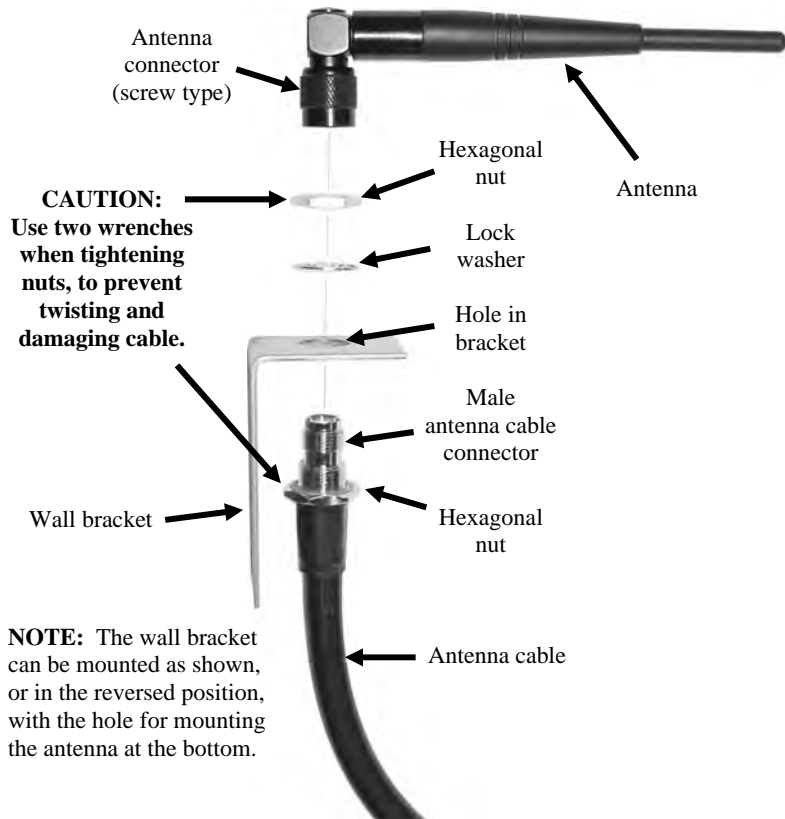

Figure 16. Remote antenna mounting on wall bracket
- Insert the antenna cable connector through the hole in the mounting bracket as shown in Figure 16, and screw the hexagonal nut onto the connector to secure it in place on the bracket.